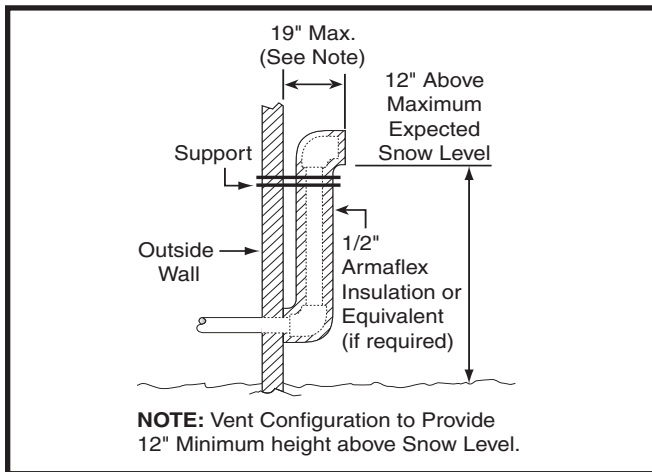

Figure 9. Alternate Horizontal Vent Installation
- When the vent pipe must exit an exterior wall close to the grade or expected snow level where it is not possible to obtain clearances shown in Figure 7, a riser may be provided as shown in Figure 9 \(page 12\). Insulation is required to prevent freezing of this section of pipe. See Table 3 \(page 15\) for vent freezing protection.